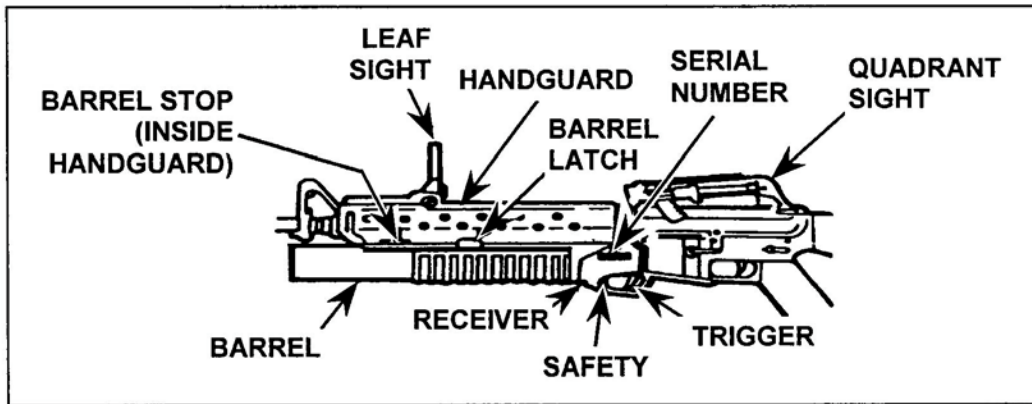

Figure 1. Components of the M203 grenade launcher.
2. Disassemble the M203 (Figure 1).